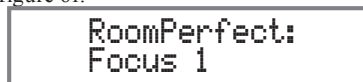

Figure 61
1. Press the TRIM Push-button until “RoomPerfect: Focus 1” appears on the Front Panel Display. Refer to figure 61.